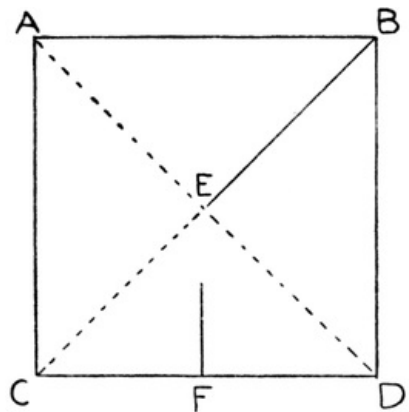

FIG. 41
**A Triangular Tent.** This is very simple. Fold and cut as in Fig. 41. Paste A E B over E B D. Cut door at F.